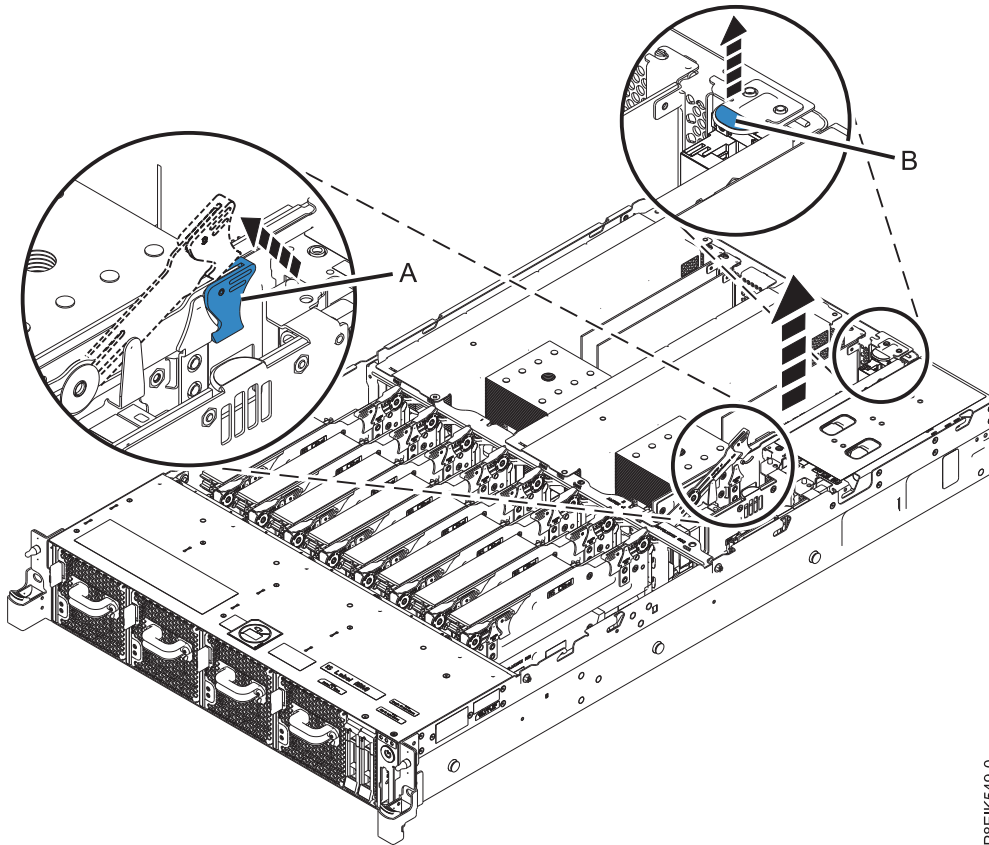

Figure 113. Removing the BMC card
3. Using the blue tab, open the release latch **(A)** at the socket end of the BMC card as shown in Figure 113 on page 94. Pull up on the blue tab **(B)** at the rear of the card.